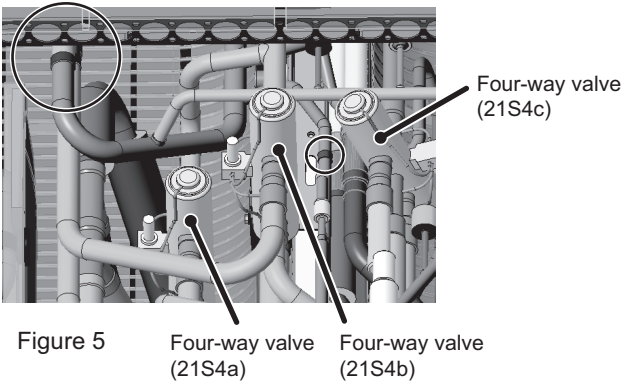

Figure 5 Four-way valve (21S4a) Four-way valve (21S4b)
(4) Remove the braze from the pipe on the left side of four-way valve (21S4a) and between four-way valves (21S4b and 21S4c). (See Figure 5.)